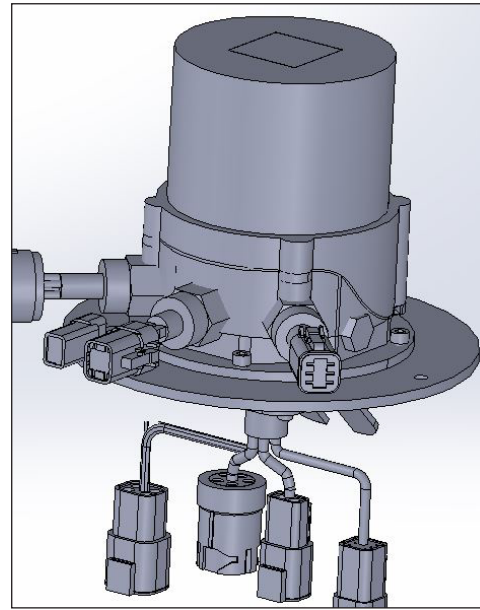

**Figure 2 — Slip Ring and Rotary Joint Assembly**
3. Locate the slip ring rotary joint assembly installed in the pedestal (refer to Figure 2).